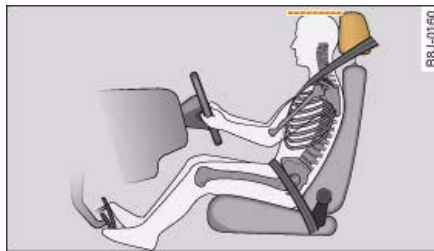

Fig. 200 Correct head restraint position for the driver
- Adjust the head restraint so that the top of the head restraint is level with the top of your head ⇒ fig. 200.